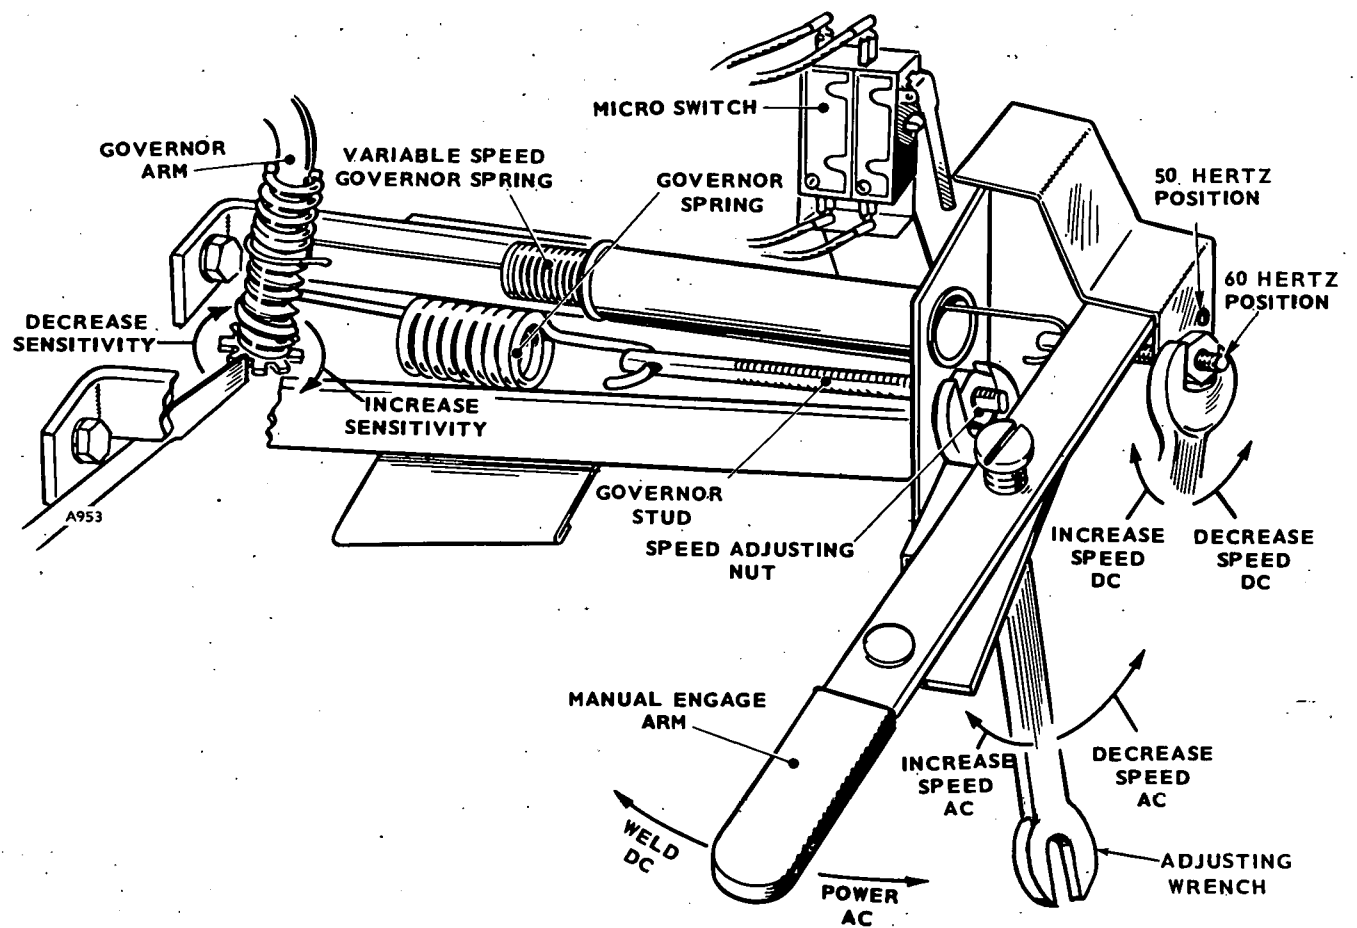

FIGURE 26. GOVERNOR ADJUSTMENTS (EARLY SPEC R MODELS)
2. Adjust the spring tension as shown in Figure 26 to produce engine speed of approximately 1850 rpm at no load.